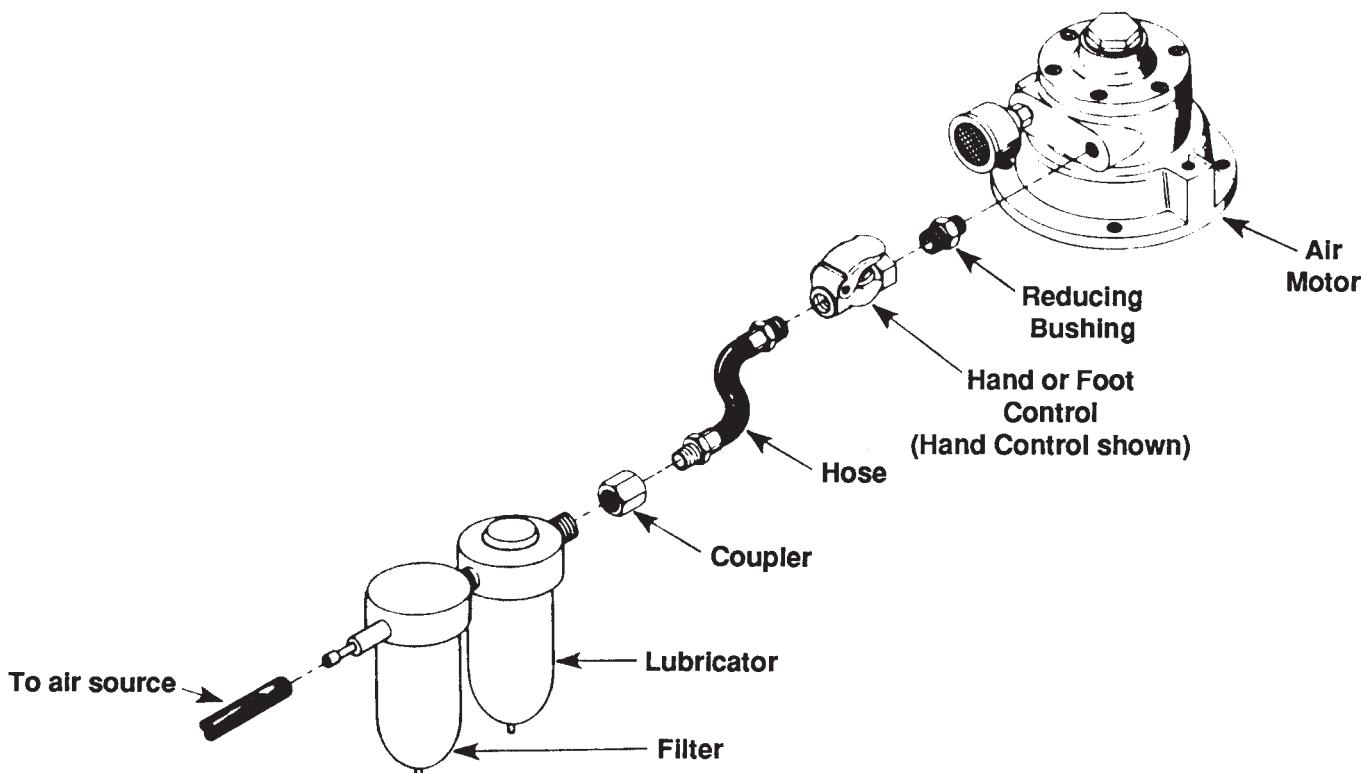

Figure 1
1. Remove the thread protector from the air inlet, and install the air supply fittings (not included) as shown in Figure 1. Air supply must be minimum 50 CFM and 80 PSI, with 100 PSI maximum. **Note: Seal all hydraulic connections with Power Team HTS6 thread sealant. Teflon tape can be used if only one layer of tape is applied carefully, two threads back, to prevent tape from being pinched and broken off inside the pipe. Loose pieces of tape could travel through the system and obstruct the flow of oil.**